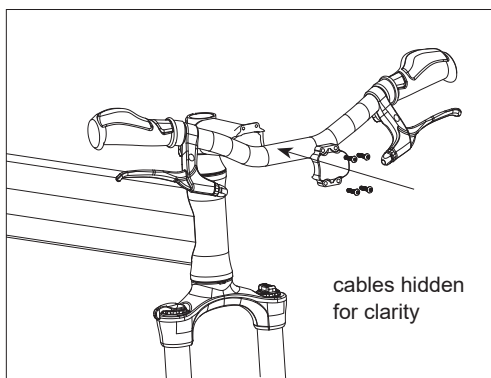

Fig. 13: Replace and center handlebars.
- Place and center handlebars within the stem (some have centerline marks), and replace screws (Fig. 13).